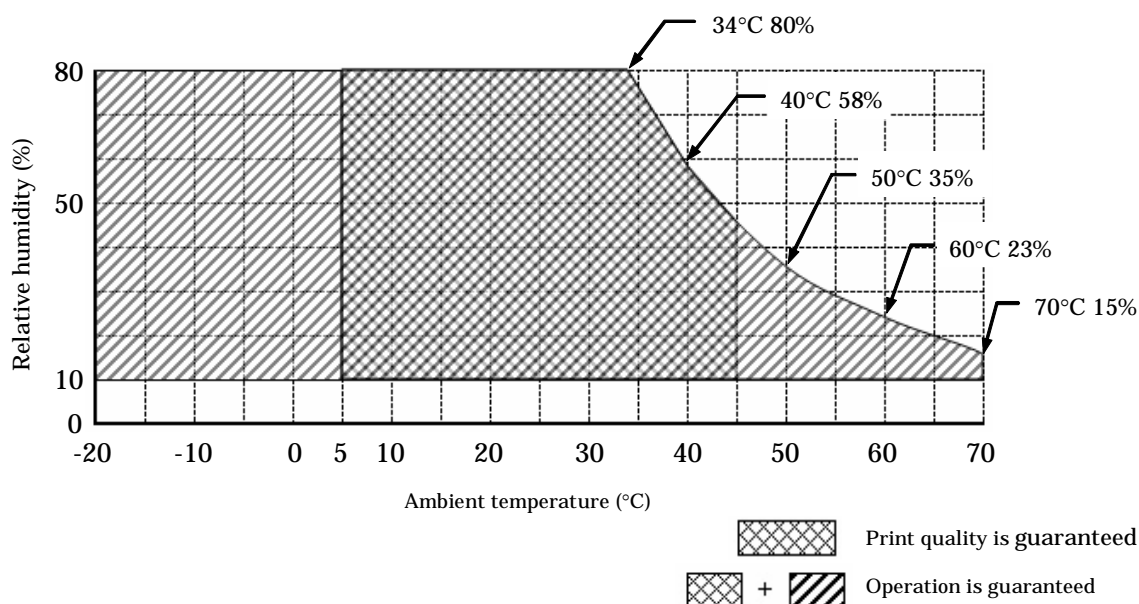

Figure 1.13.1 Environmental Conditions
1. Figure 1.13.1 shows the environmental conditions for operation.
2. In the range of "Print quality is guaranteed" as shown in the Figure 1.13.1, Epson guarantees the print quality. Guaranteed print area is given based on the Epson quality standard.
3. In the range of "Operating is guaranteed" as shown in the Figure 1.13.1, operation except printing quality is guaranteed.